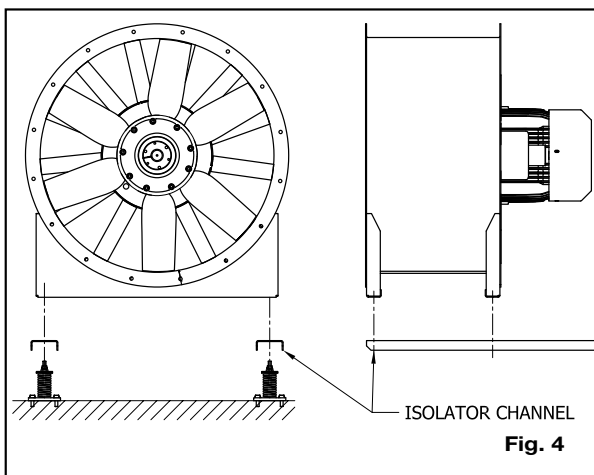
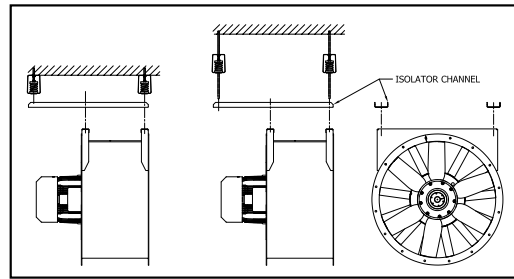

Fig. 4
Fig. 5
3. Arrange the isolator channel in position as close to the universal mount as possible. The isolator channel PCD should match the universal mounting feet (See Figure 4 and Figure 5).